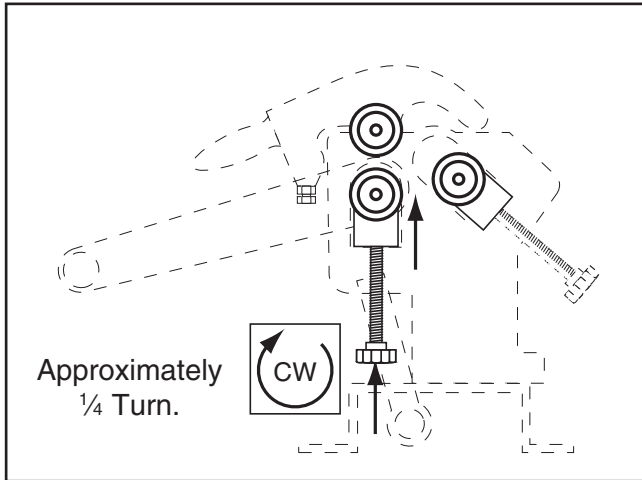

Figure 14. Raising bottom roller $\frac{1}{4}$ turn.
- Remove the workpiece from between the rollers, then raise the bottom roller slightly by rotating each thickness adjust knob approximately $\frac{1}{4}$ turn. Also, make sure the rear roller is lowered completely and will not interfere with the workpiece as it exits the machine (**Figure 14**).